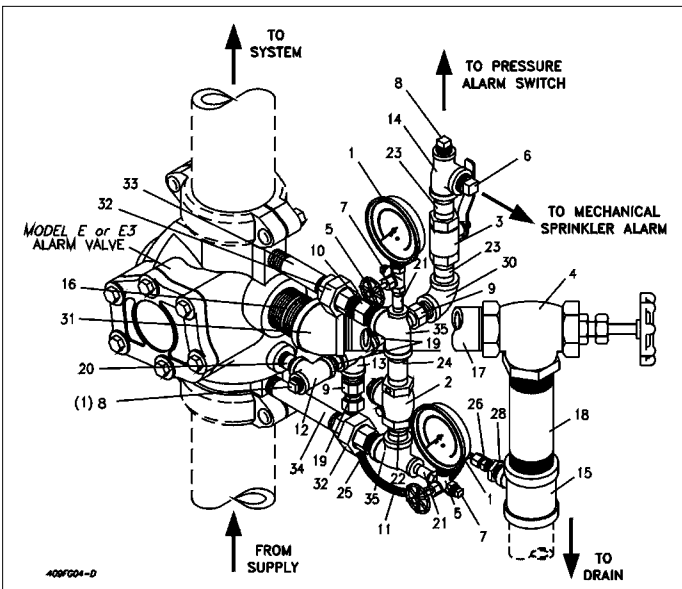

Fig. 4 Constant Pressure Vertical Installation
Constant Pressure (Figure 4 & 6)
When the water ceases to flow through the Alarm Valve, the Clapper (4) returns to its seat thus stopping the flow of water to the retard chamber. Drain Orifices (Item 9, Fig. 4 & 6) allow the retard chamber and alarm line to empty through the drain line (Item 11, Fig. 4 & 6).
- a. Close the main control valve and relieve pressure between main control valve and clapper of the alarm valve through the 1/4" NPT lower gauge valve. Close this valve before removing the 1/4" NPT plug, and open after the plug is removed to relieve pressure. If water continues to flow from this valve, the bypass Check Valve (B) should be cleaned, repaired or replaced.
- b. If Bypass Check Valve (B) is leaking, repair after opening Valve (A) to drain and draining the system completely.
- c. Following all repairs, close Valves (A) and then slowly open the main control valve, and supervise it appropriately.
5. If the retard and mechanical sprinkler alarm line does not drain completely, false alarms may result. In this case, check both drain orifices (Item 9, Fig. 4. & 6) to ensure they are not plugged.